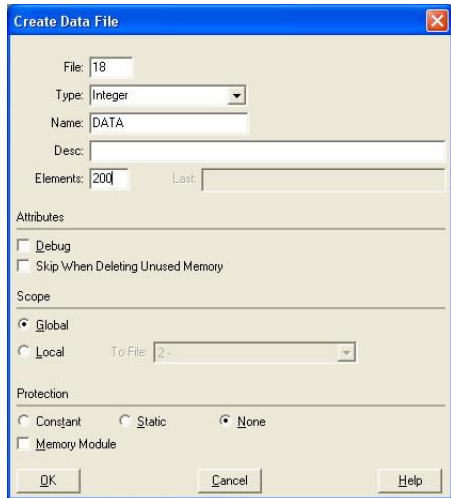

Figure 62: Creating a Data File
- c) Follow the same procedure to create a data file. This file will be used to store the incoming data read from the interface card. Enter a file number (e.g. 18), set the type to “Integer”, enter a descriptive name (e.g. “DATA”), and enter a number of elements (e.g. 200). Refer to Figure 62. Click OK to create the file.